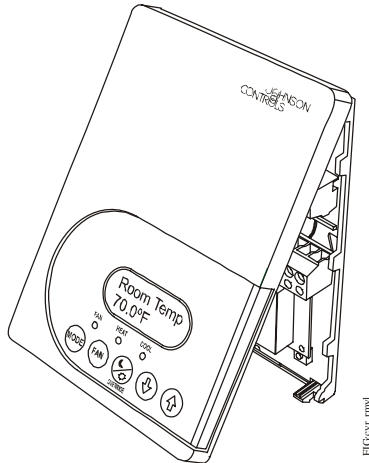

Figure 1: Removing the Thermostat Cover
2. Pull the bottom edge of the thermostat cover and open the thermostat as illustrated in Figure 1.